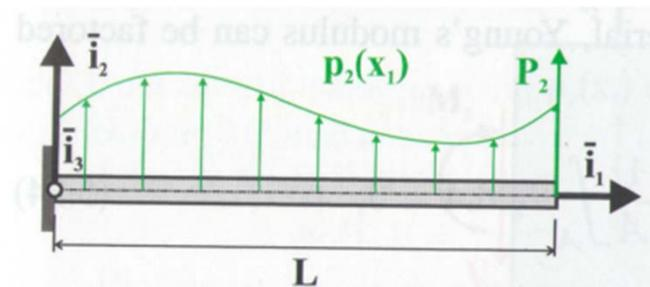

Fig. 5.14. Beam subjected to transverse loads.
- Beams subjected only to transverse loads (Fig. 5.14)
- beam under a distributed transverse load,  $p_2(x_1)$ , Fig. 5.14